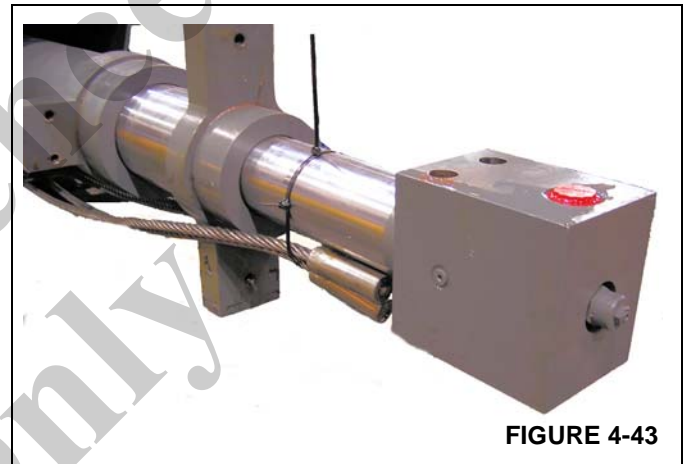

FIGURE 4-43
14. Turn cylinder rod mounting lug ends (Figure 4-43) so they are aligned vertically to clear mounting brackets in the outer mid section.
18. Temporary tie extend cables to the Tele Cylinder to maintain proper cable alignment during assembly (Figure 4-43).